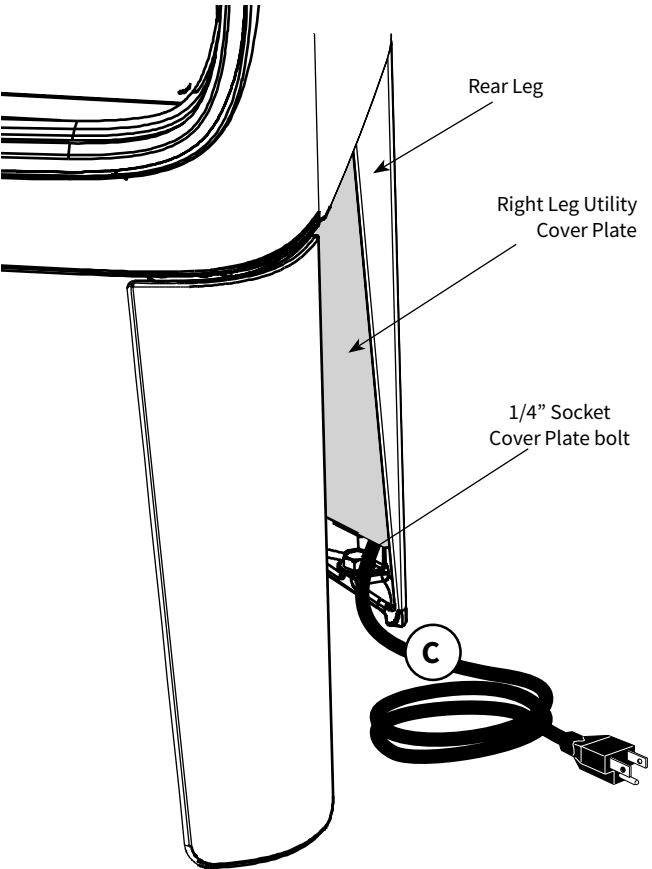

Figure 11.9. Power cord routing.
5. The power cord (C) is routed to the **right rear** stove leg behind the Right Utility Cover. It may be removed to accommodate installation requirements as necessary. See fig. 11.9 and fig. 17.9, page 43.